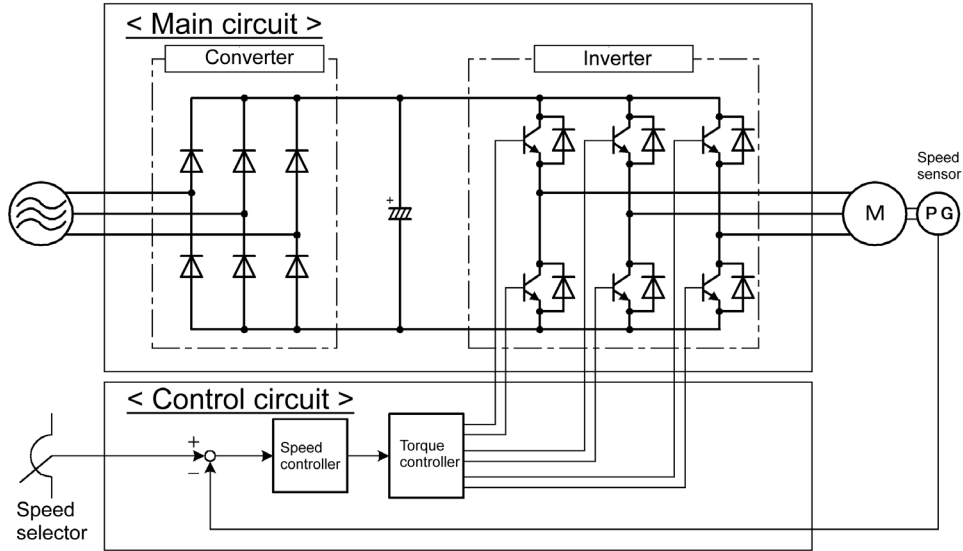

Figure 1-3-5 Basic Configuration of Closed Loop Speed Control System
The basic configuration of the closed loop speed control system is shown in Figure 1-3-5. The speed information is fed back from a speed sensor such as pulse encoder (PG) and compared with the speed command to control the inverter output frequency so that the speed command will agree to the speed sensor reading.